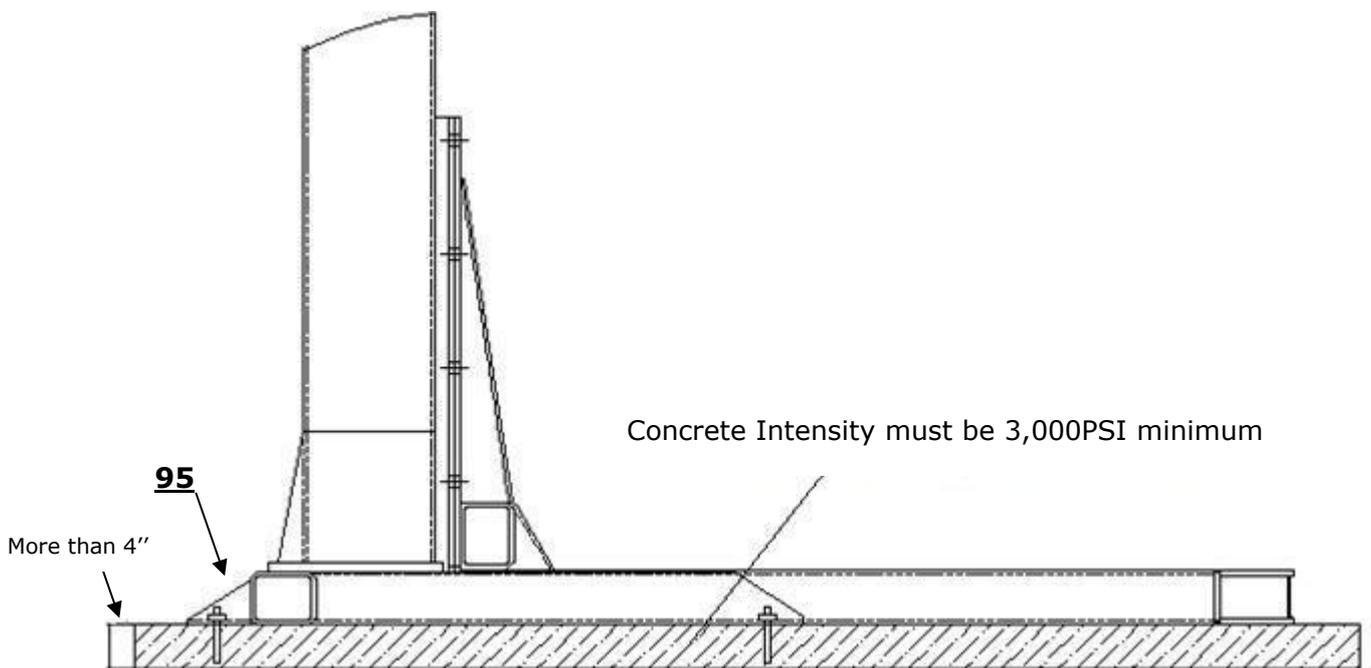

Fig.4
B. SPECIFICATIONS OF CONCRETE (See Fig. 4)